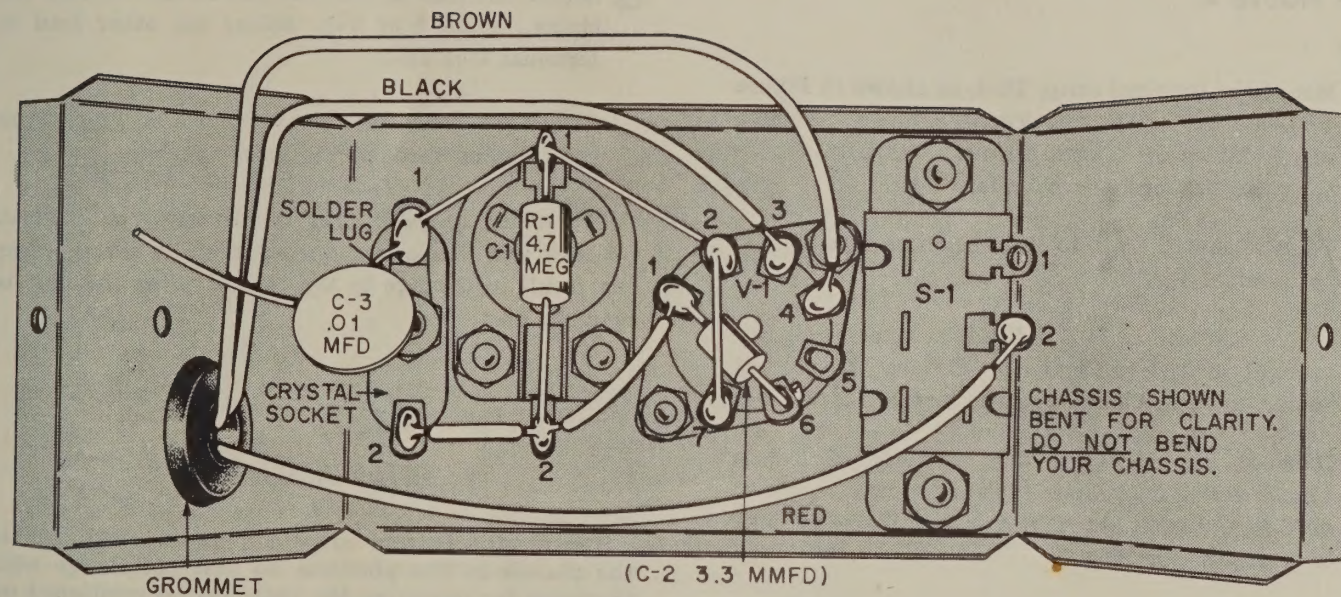

FIGURE 3. FIRST WIRING VIEW
SEE FIGURE 3:
- ✓ Bend both terminals of C-1, the trimmer capacitor, to the positions shown in Figure 3.